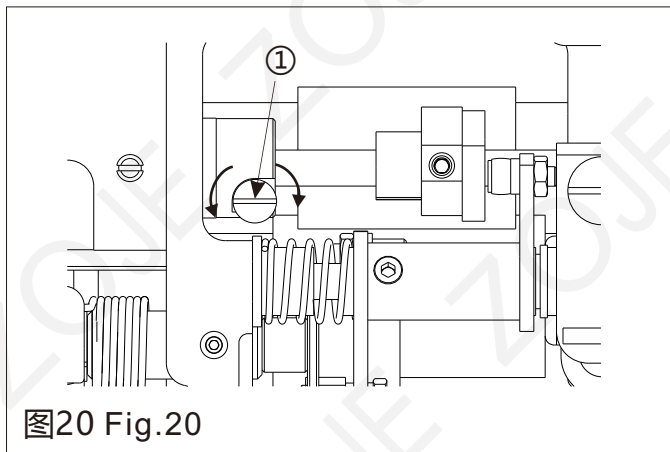
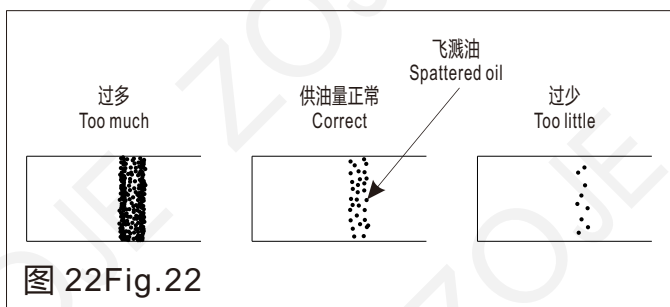
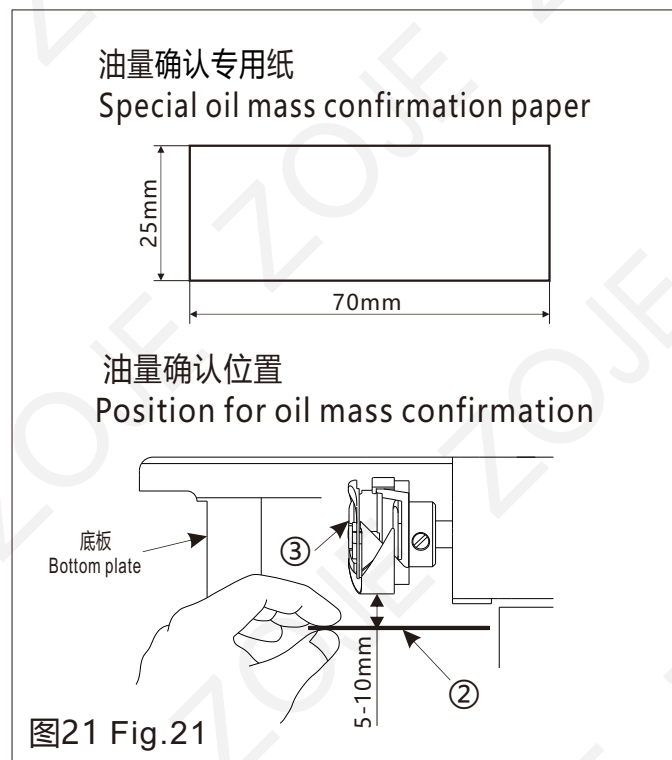

图20 Fig.20
图 22 Fig.22
图21 Fig.21
17 旋梭油量调节 (图20、图21、图22) Oil mass Adjustment of Rotating Hook (Fig. 20, Fig. 21 , Fig. 22)
- 1) 上图标样(见图22)可根据不同的缝纫工序需求进行增或减的微调整，但应注意不要增加或减少过多。油量过少时会引起旋梭发热，油量过多时会污染缝料。
- 1) The guide sample shown in the right-hand figure(see Fig. 22) may be finely adjusted (increased or reduced) as per different sewing processes; however, excessive increase or reduction shall be avoided. Too little oil mass may lead to rotating hook heating, and over much oil mass may lead to contamination of the sewing materials.